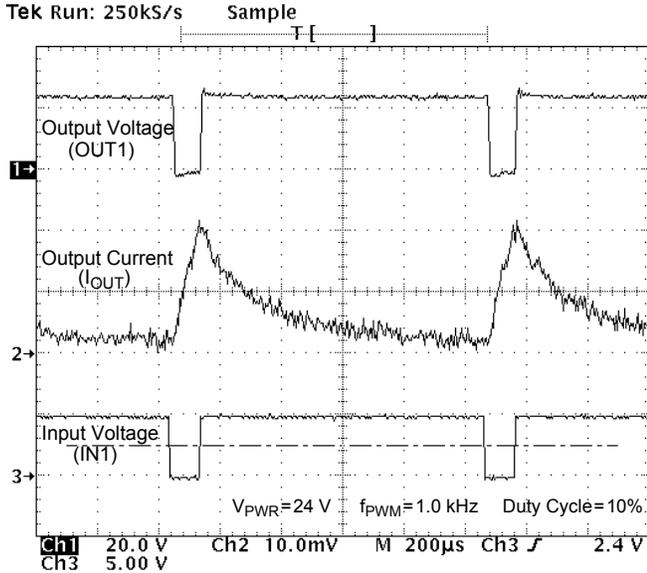

Figure 8. Output Voltage and Output Current vs. Input Voltage at $V_{PWR}=24 \text{ V}$, PMW Frequency of 1.0 kHz, and Duty Cycle of 10%
18. The outputs can be PWM controlled from an external source. This is typically done by holding one input high while applying a PWM pulse train to the other input. The maximum PWM frequency obtainable is a compromise between switching losses and switching frequency. Refer to Typical Switching Waveforms, Figures 8 through 15.